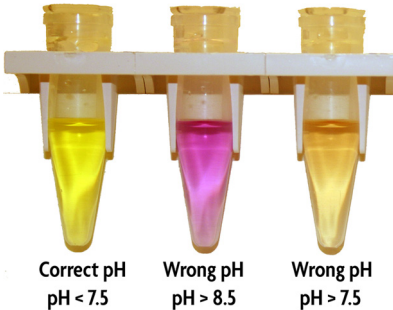

Figure 1: Solution color as a function of pH.
3. Add 5 μ L 3M Sodium Acetate and mix. Check that the color of the DNA sample / DNA Purification Binding Buffer mixture is bright yellow, not light orange or violet. If the color is light orange or violet, this indicates that its pH is too high. Add more 3M Sodium Acetate 5 μ L at a time, mixing after addition, until the color is bright yellow (see Figure 1). As the elution buffers used in many ChIP protocols (including those in the ChIP-IT Kits) have a basic pH, **this step is crucial to the successful binding and purification of your ChIP DNA sample.**
No amplification by PCR of ChIP DNA	<p>If you are experiencing problems with downstream analysis of ChIP DNA, it is possible that the purification process was compromised and your DNA samples were not recovered. This could be due to one of several factors.</p> <ol style="list-style-type: none">The pH of the Binding Buffer was too high. Refer to Figure 1 on page 4 to make sure that the pH of your sample is below 7.5 to ensure proper binding of ChIP DNA to the column. Your sample should be bright yellow (not orange, peach or purple). Add 3M Sodium Acetate in aliquots of 5 μL until the pH reaches the proper point and the sample is bright yellow. (A full-color PDF of this manual can be downloaded from the Active Motif website, which will enable you to see what is meant by “bright yellow”.)No ethanol in the DNA Purification Wash Buffer. Make sure that ethanol has been added to the DNA Purification Wash Buffer prior to use. See step A1 on page 4.Residual DNA Purification Wash Buffer in the column prior to elution. Make certain to spin the column one extra time after washing to remove any residual Wash Buffer, as it will interfere with elution of the DNA from the column. Open the cap of the column to enable proper removal of residual Wash Buffer.Salt in the Elution Buffer. DNA will not be eluted from the silica matrix of the DNA purification column if the buffer used for elution contains high salt. Use the included DNA Purification Elution Buffer or purified water (pH 7) for elution.